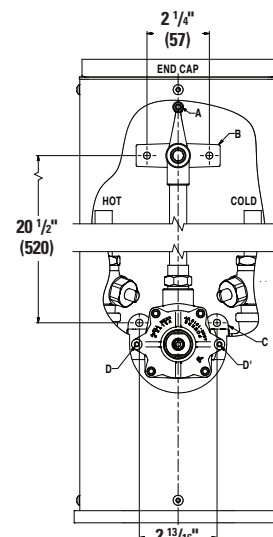

Fig. 4
1. Detach the piping from the shrouding by removing screw A above the showerhead (see Figure 4). Slide piping out of the shrouding; the showerhead remains attached to the shroud.
3. For mounting lower piping assembly, drill a small hole in the wall that is 20-1/2" (520 mm) below the upper bracket (B) and 1-13/32" (36 mm) to the left and right of the center line.